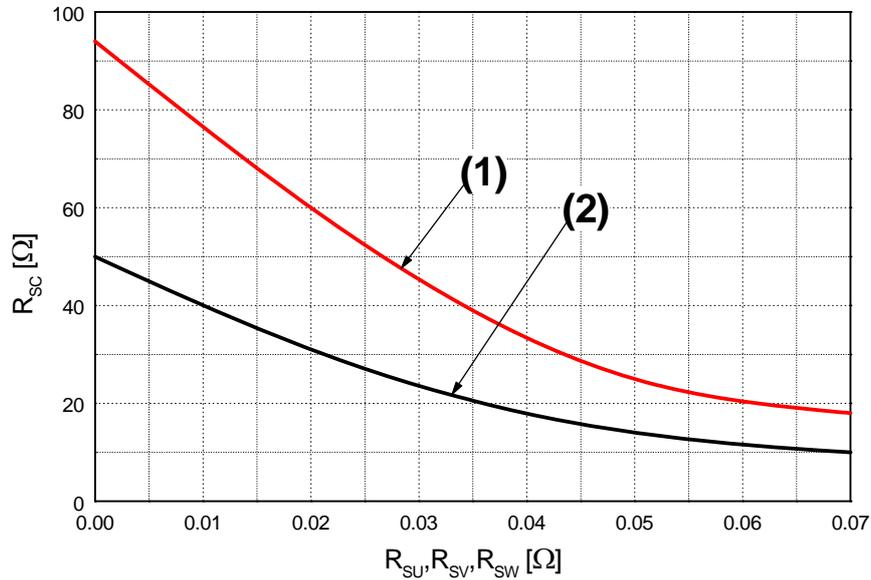

Figure 6. R_{sc} Variation by Change of Shunt Resistors (R_{SU}, R_{SV}, R_{SW}) for Short-Circuit Protection
- Short-circuit protection is functioning only at the low-sides. It would be recommended that the value of the external sensing resistor (R_{SC}) should be selected around 50 Ω in order to make the SC trip-level of about 30A. at the shunt resistors (R_{SU}, R_{SV}, R_{SW}) of 0 Ω. For the detailed information about the relationship between the external sensing resistor (R_{SC}) and the shunt resistors (R_{SU}, R_{SV}, R_{SW}), please see Figure 6.